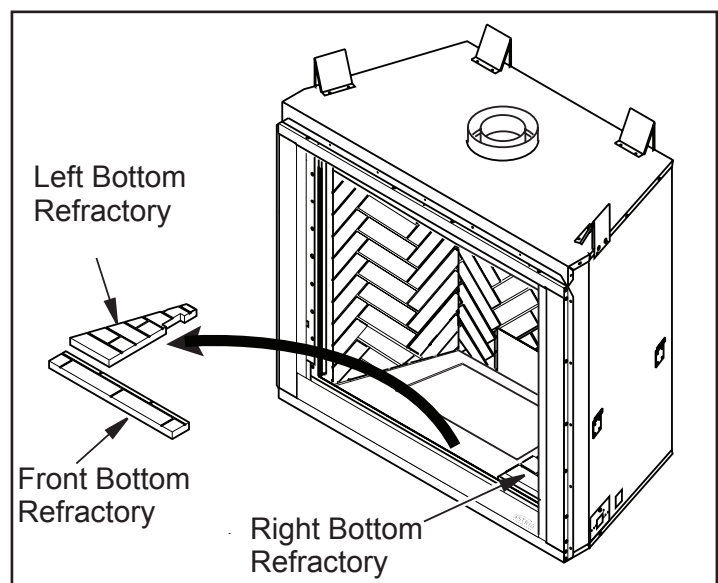

Figure 3a - Removing Hearth Refractories
8. Carefully lift and remove 3 bottom refractories from fireplace (see Figure 3a).